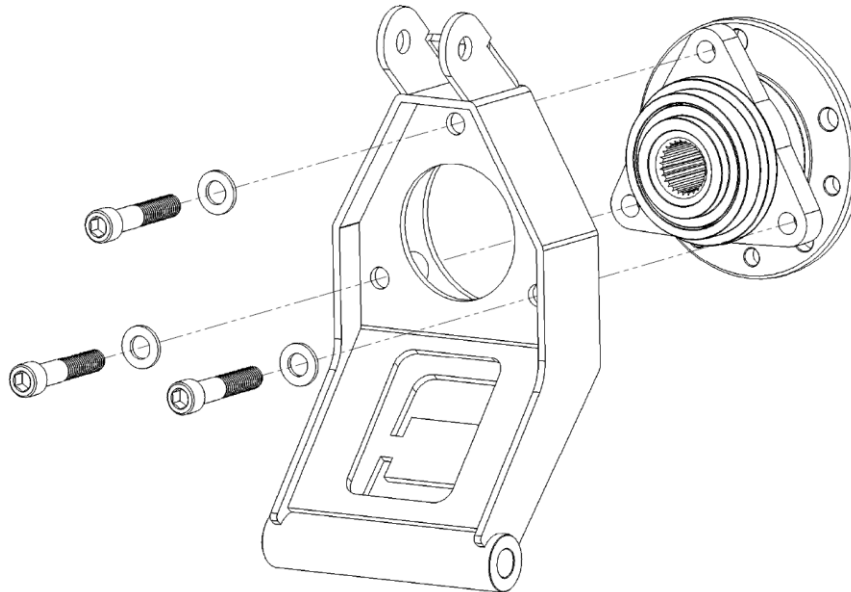

Figure 3. Install the hub as shown. Tighten the bolts in a spiral sequence to pull the hub in evenly.
- 5) Install the outer bearings into the outer uprights using the supplied 12 mm socket head bolts and washers as shown in Figure 3. The use of thread locking compound is recommended for this step. The hub is a tight fit into the opening in the hub, so let the bolts pull the hub in as they are tightened. Tightening the bolts in a spiral sequence, like lug nuts on a wheel, will allow the hub to be pulled in evenly. Verify the mating surface on the bearing has seated all the way to the upright then **torque to 65 ft lbs**